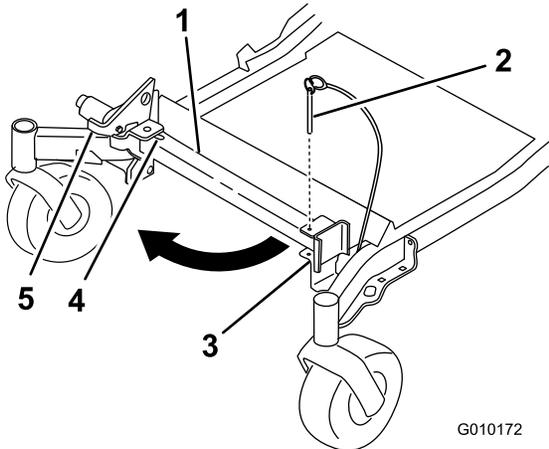
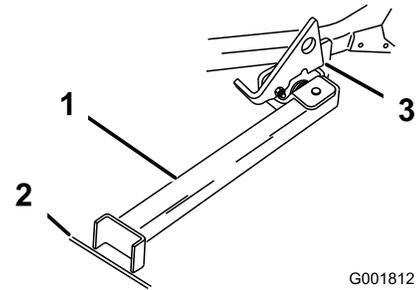

Figure 41
Figure 42
2. Remove the bracket pin (Figure 41).
3. Raise the latch. Swing the stand foot out front and slide stand toward machine, into the bottom of slot (Figure 41 and Figure 42).
4. Set the foot of stand on the ground and rest the latch on the pivot tab (Figure 42).
Note: For best results, place the foot of stand into seams in sidewalks or into the turf (Figure 42).
6. Drive onto the stand. Stop when the latch drops over the tab into the locked position (Figure 42). Once onto the stand, engage the parking brake and turn off the engine.
5. Return the stand to its rest position (Figure 41).